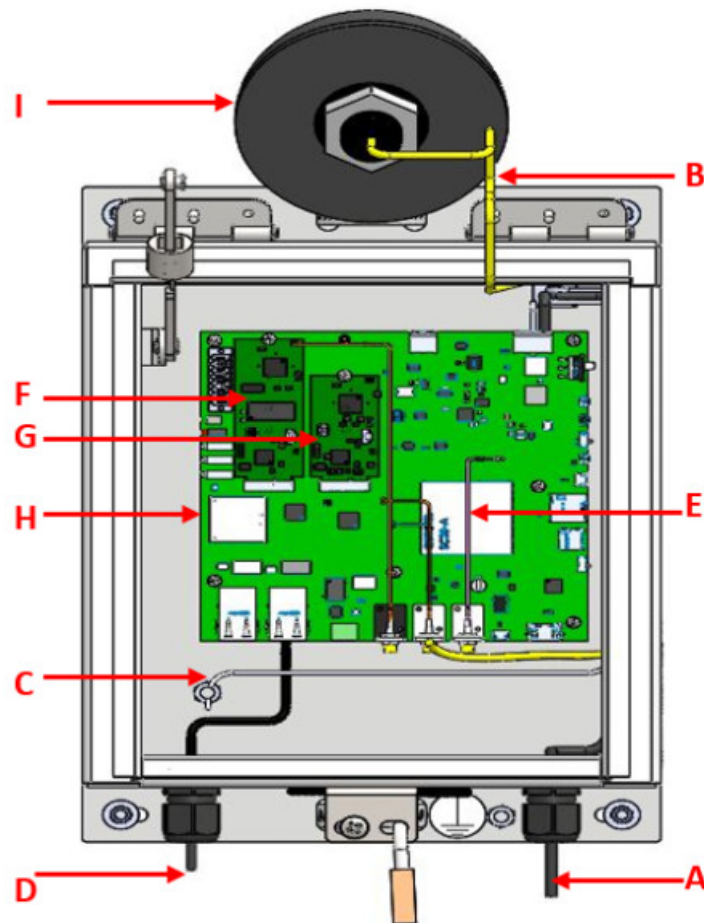

Figure 2-1 – Gateway Parts
The Cellular models of the Gateway use a single-piece antenna that has the capability of WiFi/BT, LTE, and GPS as shown in Figure 2-1. It contains Omni-directional antennae and the radiation patterns are stable across all major cellular (2G/3G/4G) bands. The individual antennae connect by using SMA (M) connectors.